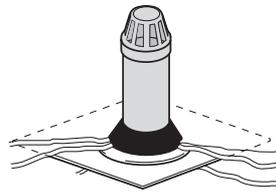

Fig.21c Steps 4-6
Step 5 – Place second layer of felt over baseplate up to the cone. Trim accordingly (Fig.21c)